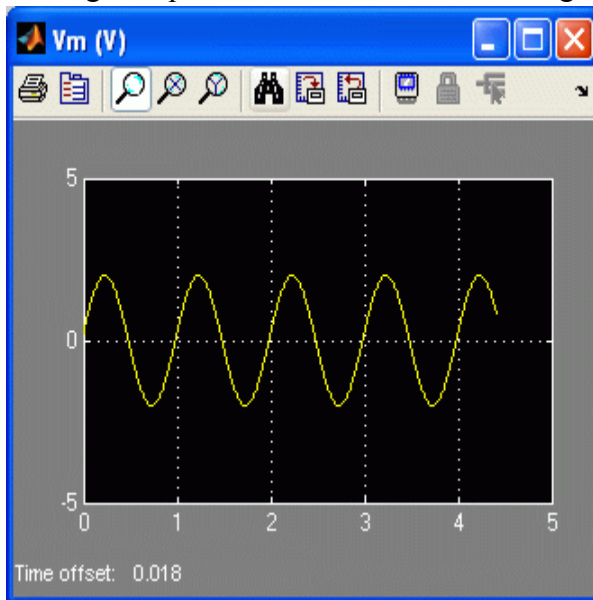

Figure 4: Input motor voltage scope.
11. Set the *Offset (V)* block to 0 V.
12. Set the *Amplitude (V)* slider gain to 2.0 V.
13. The SRV02 unit should begin rotating smoothly back and forth and the scopes should be reading a response similar to as shown in figures 4 and 5.